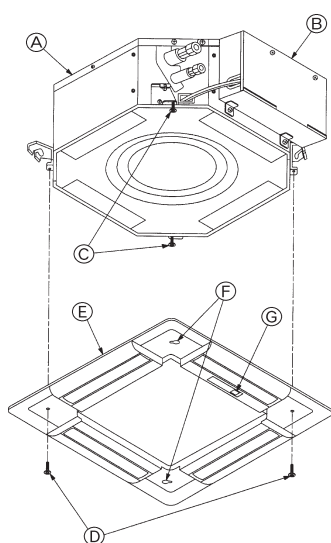

Fig. 8-6
8.3.2. Temporary installation of the grille (Fig. 8-6)
- (A) Main unit